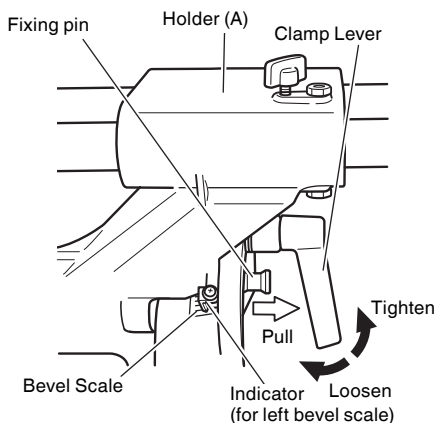

Fig. 29
- (1) Loosen the clamp lever and bevel the saw blade to the left or to the right. When tilting the motor head to the right pull the fixing pin towards the rear. The clamp lever adopts a latching system. When contacting the work bench and the main body, pull the clamp lever in the direction of the arrow mark as illustrated in Fig. 29, and change the direction of the clamp lever.
- (2) Adjust the bevel angle to the desired setting while watching the bevel angle scale and indicator, then secure the clamp lever.
- (3) Follow the procedures indicated in paragraphs 4,5 and 6 above. For maximum dimensions for bevel cutting, refer to "SPECIFICATIONS" table on page 8.